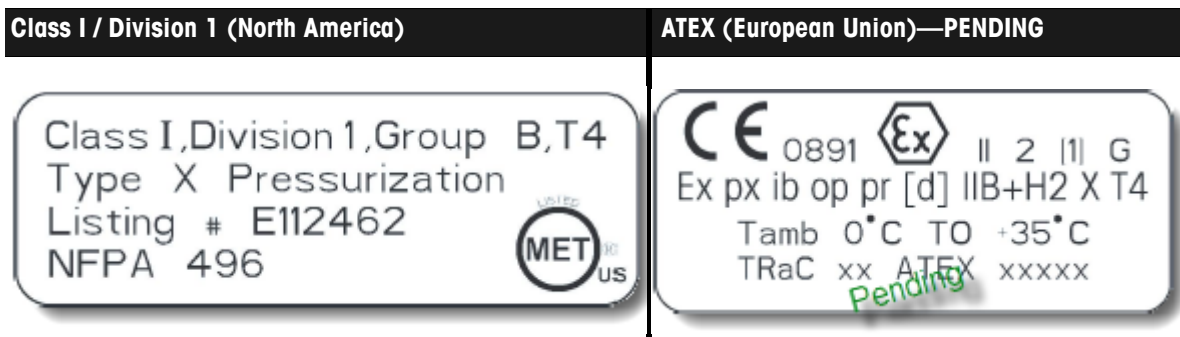

Figure 3-1 ReactIR 45P HL—Safety marking labels
The ReactIR 45P (HL) is fully compliant with safety standards for operation in hazardous locations as specified in the safety labels shown in Figure 3-1. The table below lists the equipment characteristics.